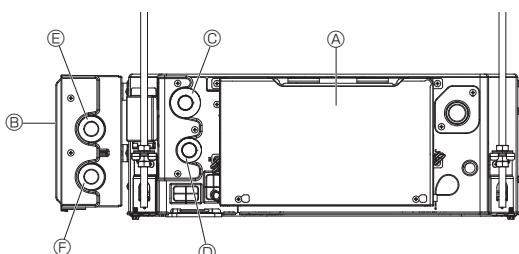

Fig. 4-10
1. Connect outlet pipe Ⓛ of the indoor unit to inlet pipe Ⓜ of the VALVE KIT with ø22 piping (procured locally). (Fig. 4-10)